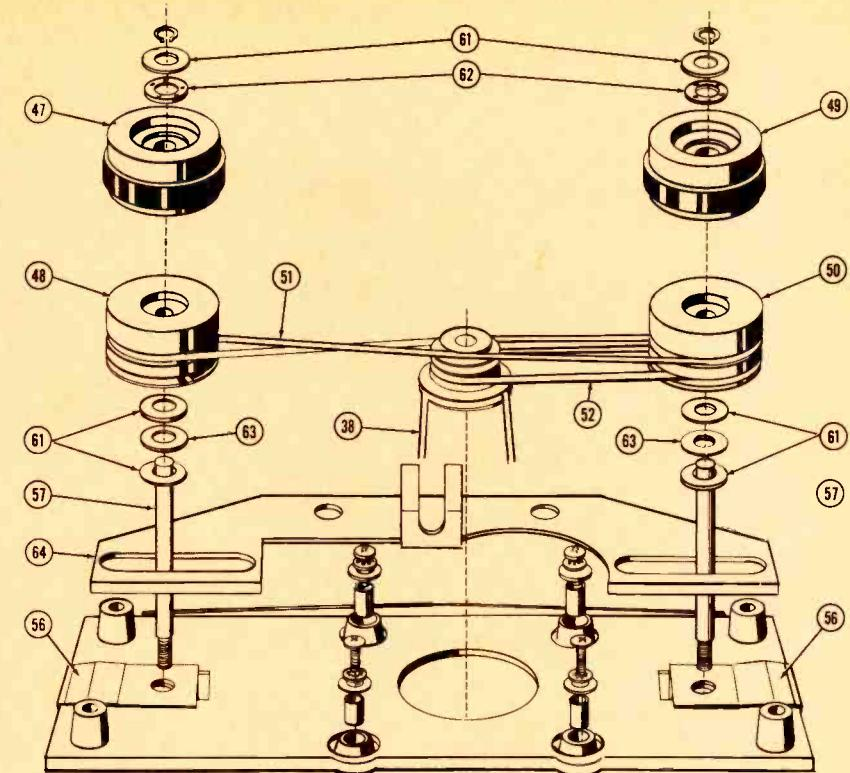

Fig. 14 Typical belt-drive clutch assembly.
Various forms of belt-drive systems are in wide use. A typical arrangement is shown in Fig. 14. The belts (51) and (52) may be of the rubber or composition types. Excessive belt wear results in low or erratic torque, as explained previously, or the tape may not move at all; defective belts must be replaced. However, a new belt may not operate properly if it is contaminated